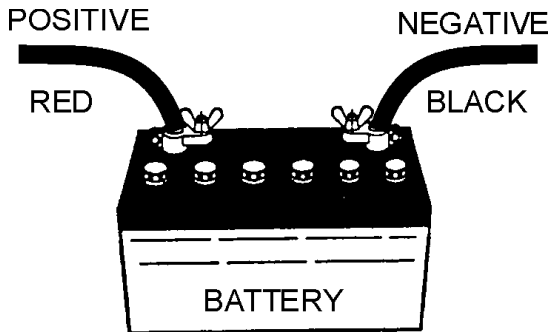

Figure 30. Battery Connections
**ALWAYS** be sure the battery cables (Figure 30) are properly connected to the battery terminals as shown below. The **RED** cable is connected to the positive terminal of the battery, and the **BLACK** cable is connected to the negative terminal of the battery.